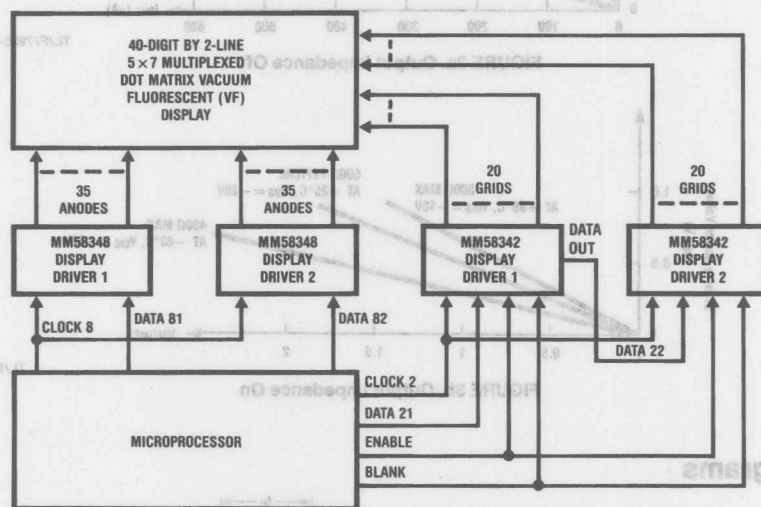

FIGURE 6. Microprocessor-Controlled Word Processor
Figure 6 shows a schematic diagram of a microprocessor-based system where the MM58342 is used to provide the grid drive for a 40-digit 2 line 5 x 7 multiplexed vacuum fluorescent (VF) display. The anode drive in this example is provided by another member of the high voltage display driver family, namely the MM58348, which does not require an externally generated load signal.